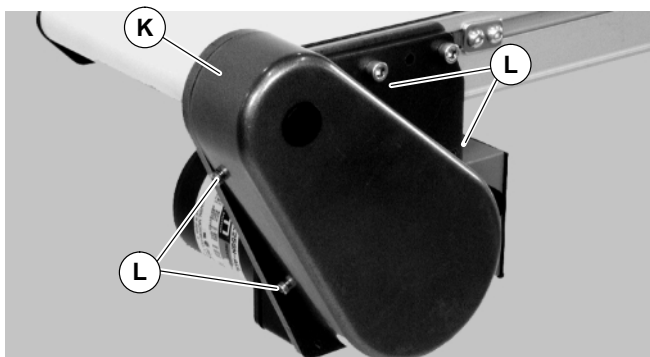

Figure 9
1. Remove four (4) screws (L of Figure 9) and remove cover (K).
4. Install cover (K of Figure 9) with four (4) screws (L). Tighten screws to 35 in-lb (4 Nm).
6. Install cover (K of Figure 9) with four (4) screws (L). Tighten screws to 4 Nm.
3. Remove four (4) screws (L of Figure 9) and remove cover (K).